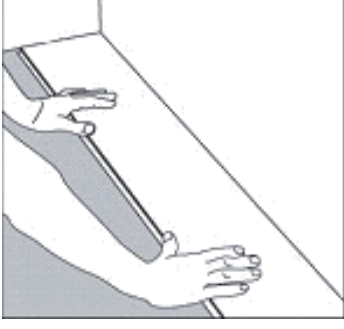

Figure 1
- 1. Starting from the left with the tongue facing the wall, carefully place the first board in place. (Figure1)